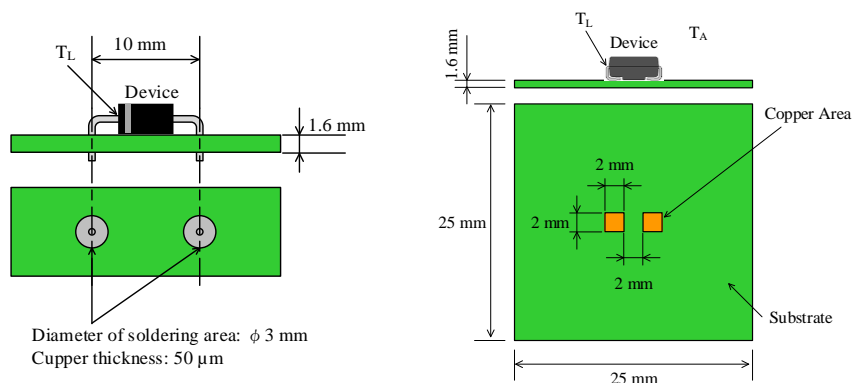

Figure 1. Lead Temperature Measurement Conditions
(2)  $R_{th(J-L)}$  is thermal resistance between junction and lead. Lead temperature ( $T_L$ ) is measured near the root of pin (see Figure 1).